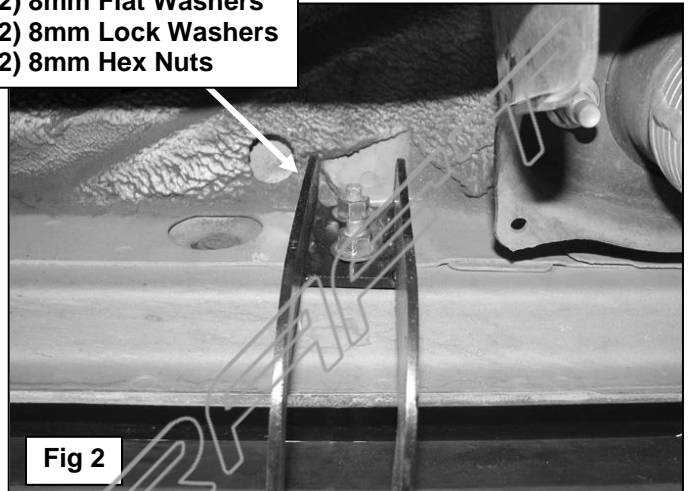

Fig 2
- Locate the threaded studs on the inner body panel, **(Figure 1)**. Select (1) Mounting Bracket and hang it from the front mounting location, **(Figures 2 & 3)**. Secure it with the included (2) 8mm Flat Washers, (2) 8mm Lock Washers and (2) 8mm Hex Nuts. Snug hardware but do not tighten at this time.
- Repeat **Step 2** for the driver side Center and Rear Mounting Bracket installation, **(Figures 2 & 3)**.